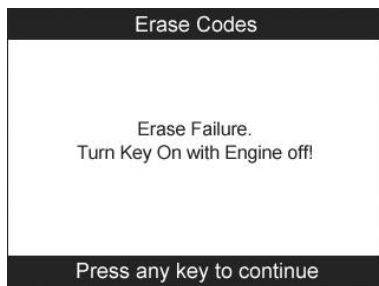

Figure 5.8
- If the codes are not cleared, then an “**Erase Failure. Turn Key on with Engine off!**” message appears (Figure 5.8).